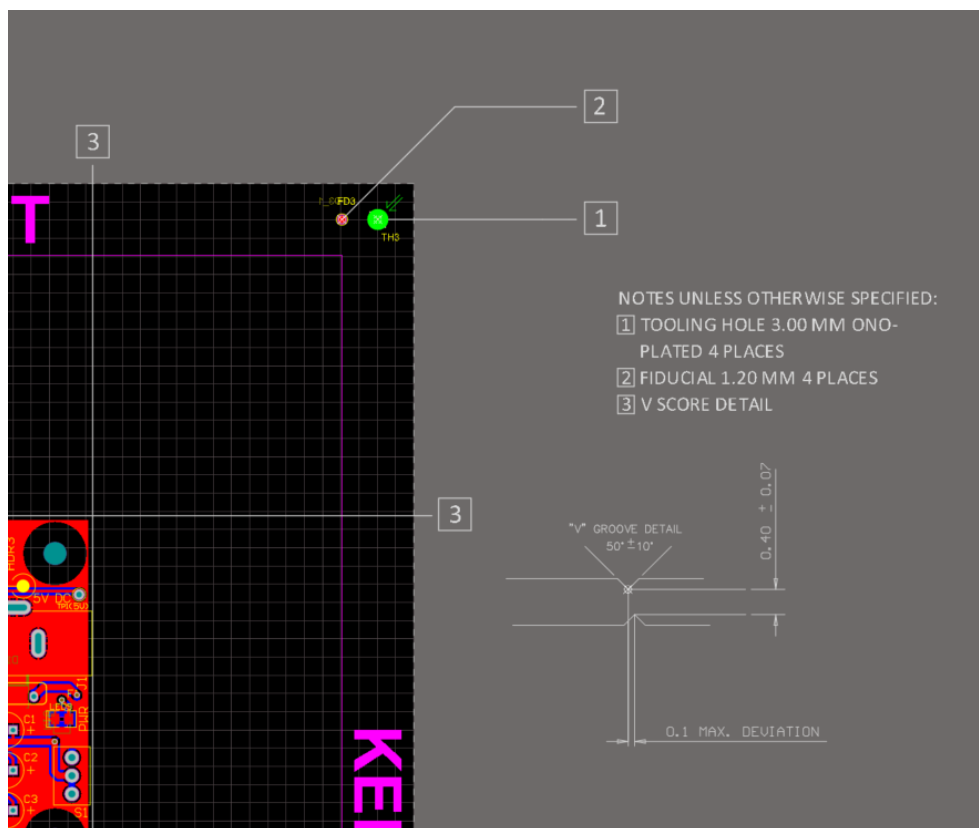

Figure 27. VSCORE line details and callout
63. Notice under the *Notes* section, just to the upper right of the board, that VSCORE details have been added, as shown in Figure 27.